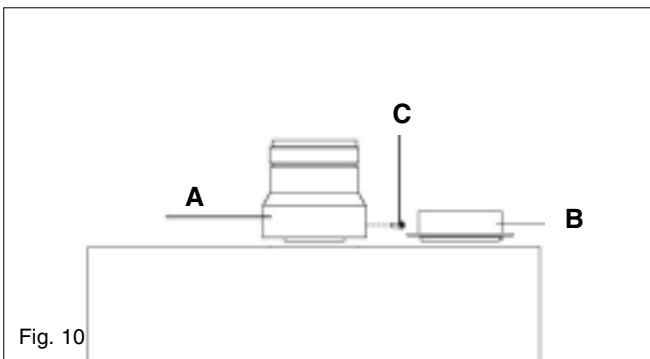

Fig. 10
4.5.3.1 INSTALLATION OF TWIN ADAPTOR KIT (fig. 10 & 11)
- Insert the exhaust connection manifold (A) onto the appliance flue outlet.
- Remove the blanking plate and - using the same screws - install the air inlet plate (B).
- Using the hole in the exhaust connection manifold as a guide, drill a 3mm hole in the appliance flue spigot and secure the exhaust manifold connection to the flue spigot using the screw provided (C).